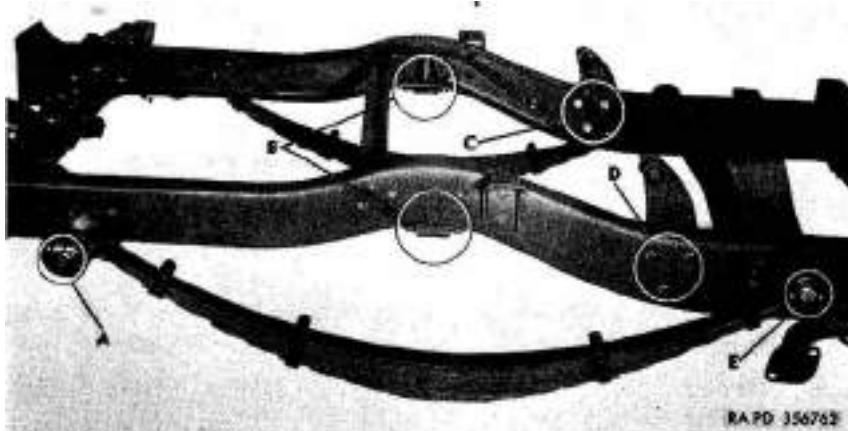

Figure 31. Rear suspension disconnect points.
- (2) Remove front spring torque arrester assemblies from frame (three nuts, lock washers, and cap screws, each side) (E).
- (3) Remove front shock absorber frame brackets (two nuts, lock washers, and cap screws each side) (B and G).
b. Remove Rear Spring Assemblies and Shock Absorber Frame Brackets (fig. 31).
- (1) Remove nuts, lock washers, and cap screws from frame
- (2) Install rear shock absorber frame brackets (fig. 31)
(three $\frac{1}{8}$ -18NF x 1% cap screws (D, fig. 31), $\frac{5}{8}$ -inch internal-external-teeth lock washers, and 5/8-18NF nuts (C, fig. 31), each side).
- (1) Install rear axle bumper assemblies (B, fig. 31) on lower flange of both frame side rails (two $\frac{1}{8}$ -24NF x 1 cap screws (head down), $\frac{1}{8}$ -inch lock washers, and $\frac{1}{8}$ -24NF nuts).
- (3) Install rear spring assemblies complete with shackles (fig. 31). This includes spring bolts (A and E, fig. 31) ; four 3/8-24NF x $\frac{21}{32}$ cap screws (A and E, fig. 31) in the frame rear spring brackets, which lock the spring bolts in their operating position ; %-inch lock washers ; and $\frac{1}{8}$ -24NF nuts.